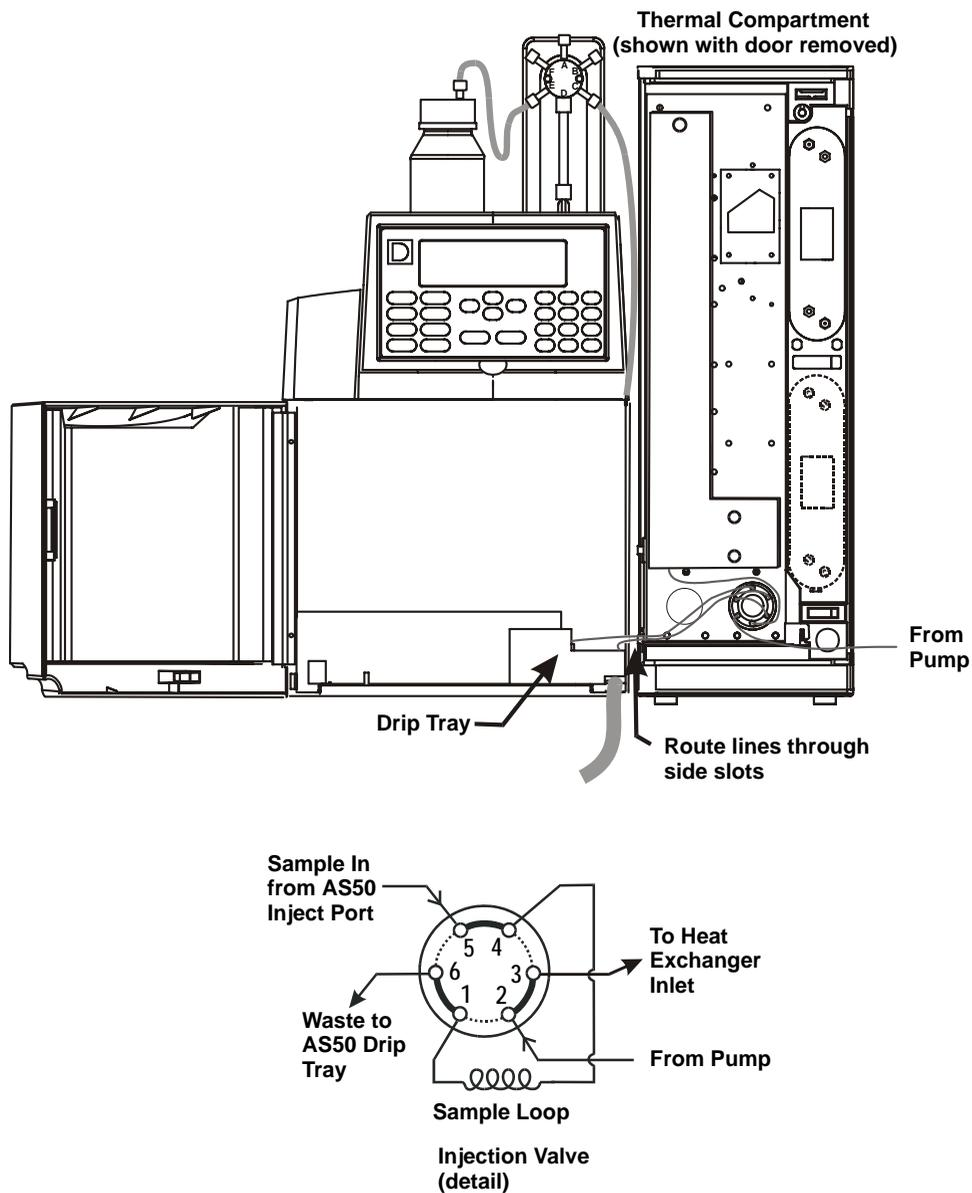

Figure B-9. Injection Valve Connections to a Thermal Compartment
2. The needle seal line that extends from the inject port in the autosampler compartment is coiled inside the door on the right side. Route this line through the side slots on each module and connect it to port 5 on the injection valve inside the thermal compartment (see Figure B-9).